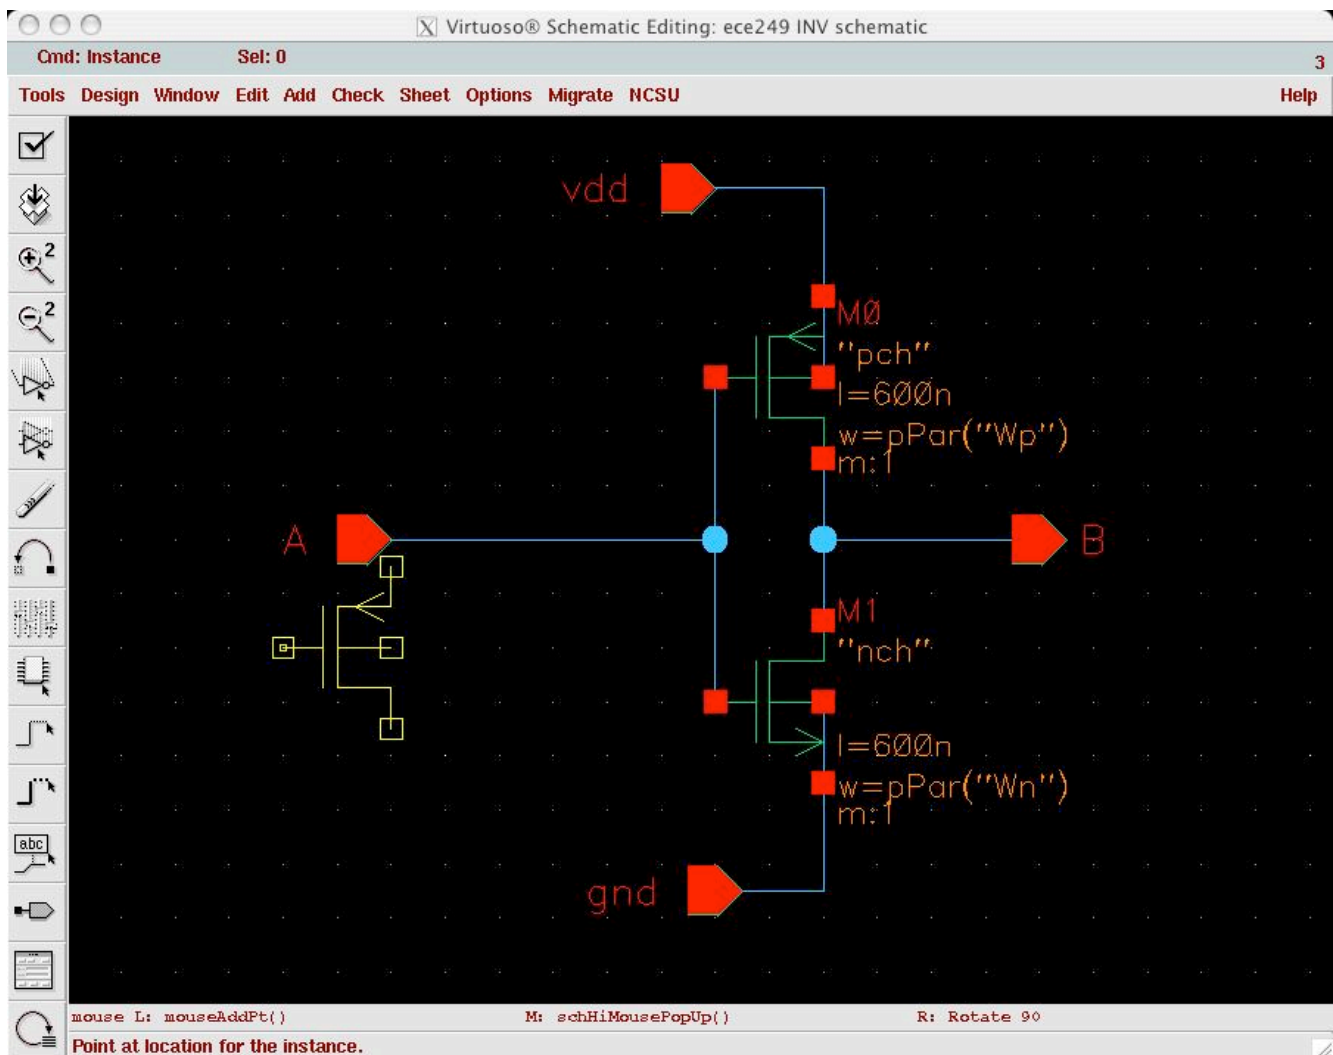

Fig. 8. Inverter schematic
**Step 10:** In the *Virtuoso Schematic Editing* window, go to *Add... → Wire* and connect the instances as shown in Fig. 8.